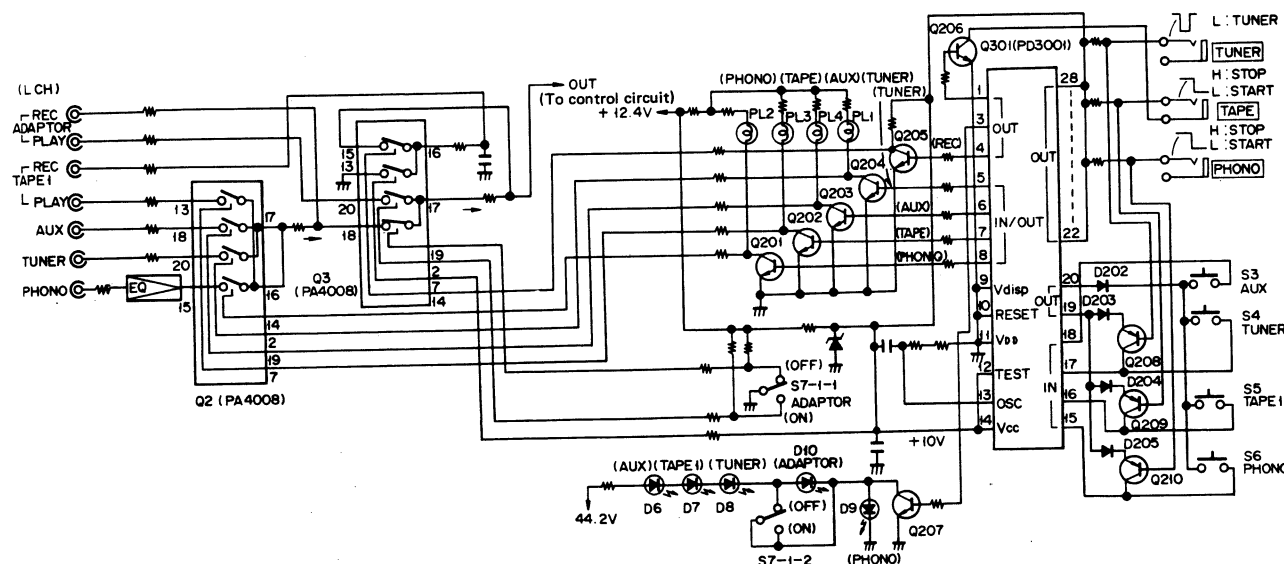

Fig. 7-2 Function switch control section
#### ■ PHONO Switch ON (Fig. 7-2)
#### ■ TAPE 1 Switch ON (Fig. 7-2)
#### ■ AUX Switch ON (Fig. 7-2)
#### ■ TUNER Switch On (Fig. 7-2)
### 7.1.2 Function Switching Using the Automatic Switching Terminals (see Fig. 7-2)
■ PHONO Switch ON (Fig. 7-2)
■ TAPE 1 Switch ON (Fig. 7-2)
■ AUX Switch ON (Fig. 7-2)
■ TUNER Switch On (Fig. 7-2)
7.1.2 Function Switching Using the Automatic Switching Terminals (see Fig. 7-2)